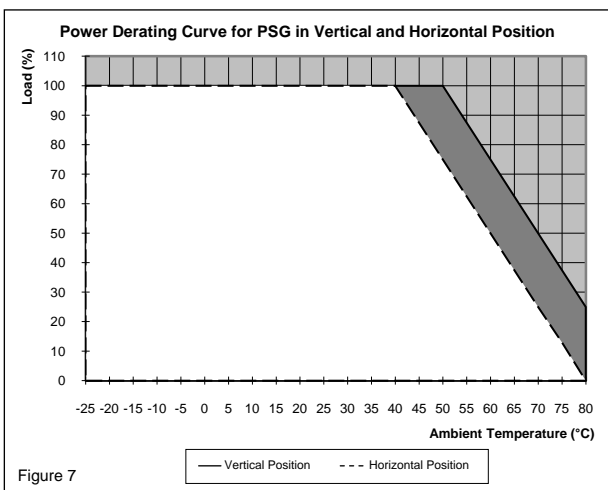

Figure 7
5.4. Thermal behavior (Fig. 7).
Operating temperature (surrounding air temperature)	-25°C to +80°C (Refer to Fig. 7)